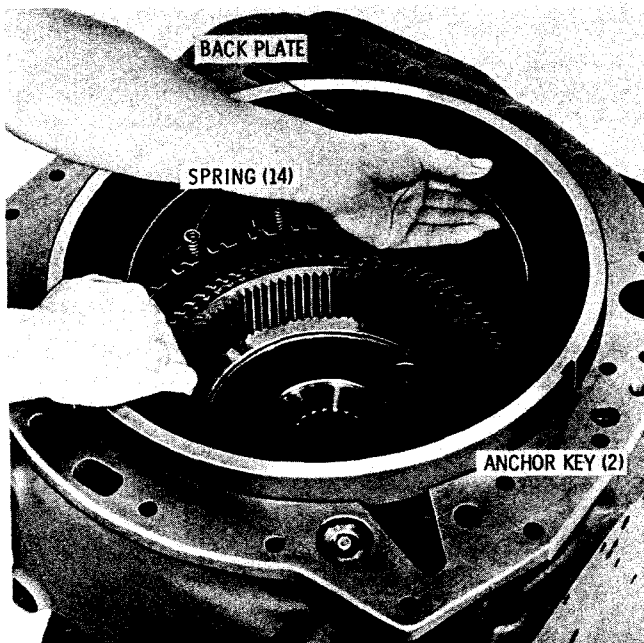

Fig. 7-38. Installing high-splitter clutch back plate S1685
(6) Install 14 high-splitter clutch piston return springs (fig. 7-38). Install, flat side first, the splitter clutch back plate. Aline the keyways in the back plate with the anchor keys in the transmission housing.